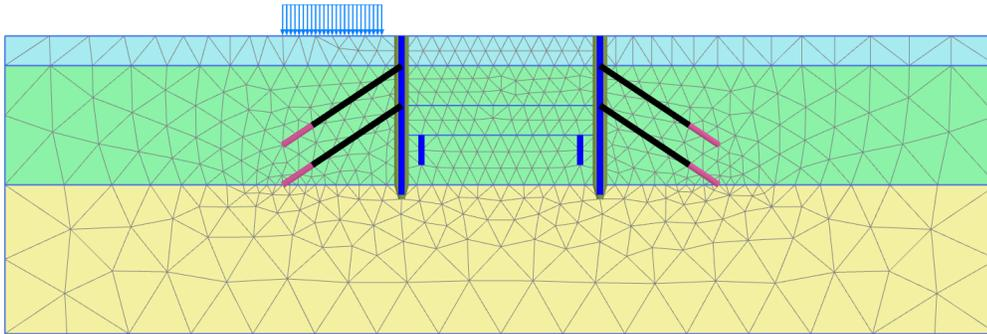

Figure 130: The generated mesh
4. Click the **View mesh** button  to view the mesh as shown in Figure 130 (on page 149).